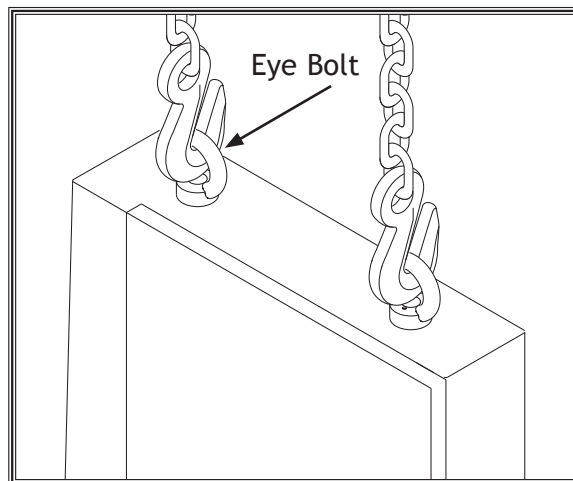

Figure 10. Lifting the bandsaw.
3. Install the eye bolts shown in **Figure 10**, making sure they are threaded all the way in, then place the lifting hooks through the eye bolts and lift slowly with a forklift.